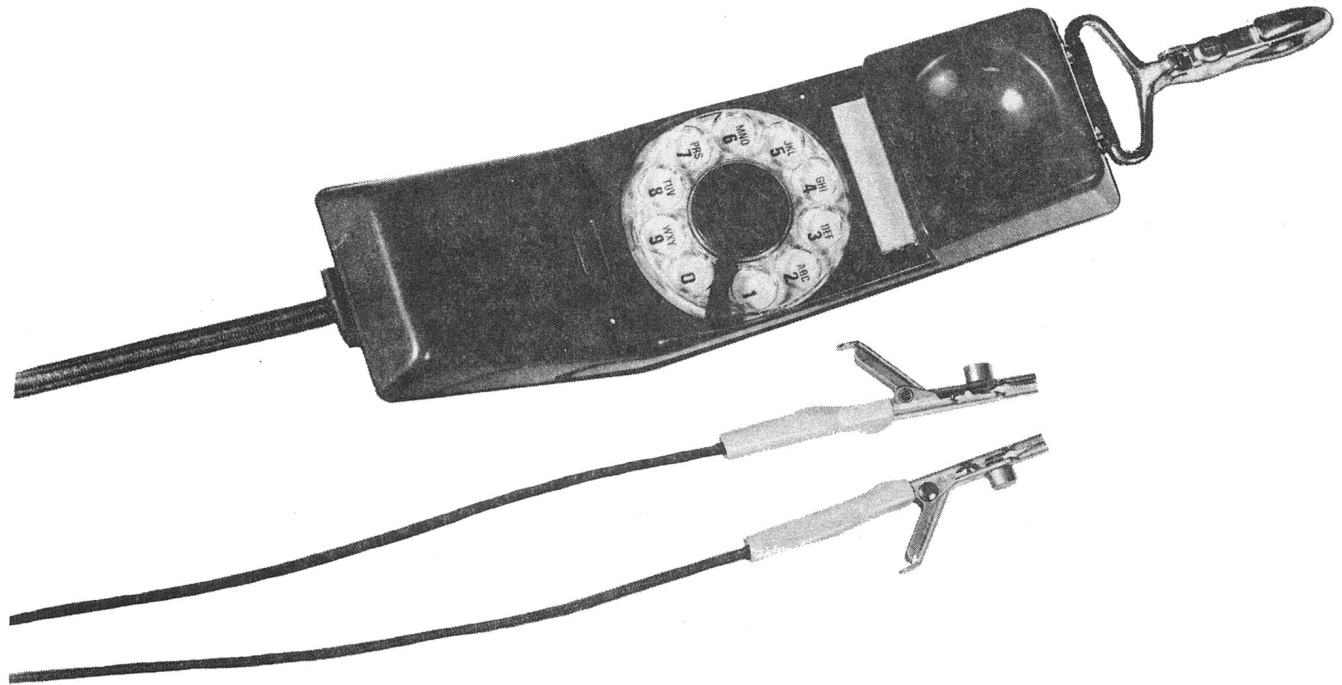

Fig. 1 — QSE4 Type Handset Showing the NSQ4100 L1 Test Clips
1.01 This section covers the description, operation, and maintenance of the QSE4 types of handset (dial hand test set Fig. 1).
2.01 The QSE4A1 and QSE4B1 type handsets consist of a plastic handset equipped with an NE-10QA type dial in the center of the housing, an NE-T1 Transmitter Unit, an NE-U1 Receiver Unit, and a cord provided with test clips. (See Fig. 1, and Table A.)